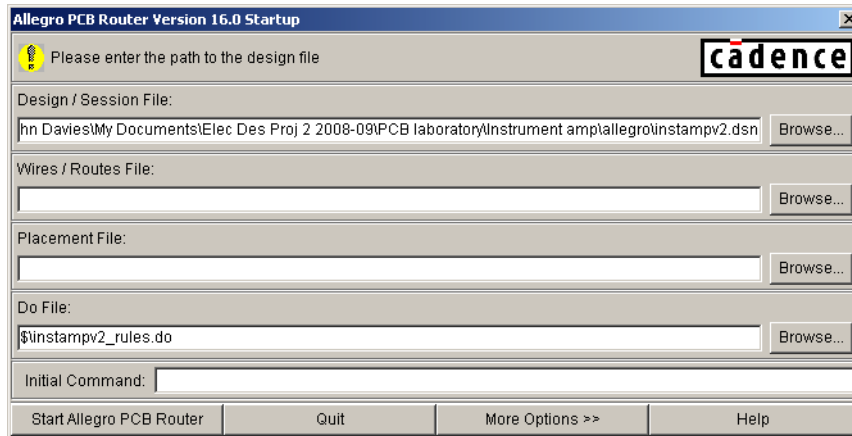

Figure 14. Startup dialogue box for importing a design into SPECCTRA.
2. Start SPECCTRA for OrCAD from the Windows Start menu. You will be presented with the fairly complicated dialogue box shown in figure 14. Use the **Browse...** buttons to open the following two files.